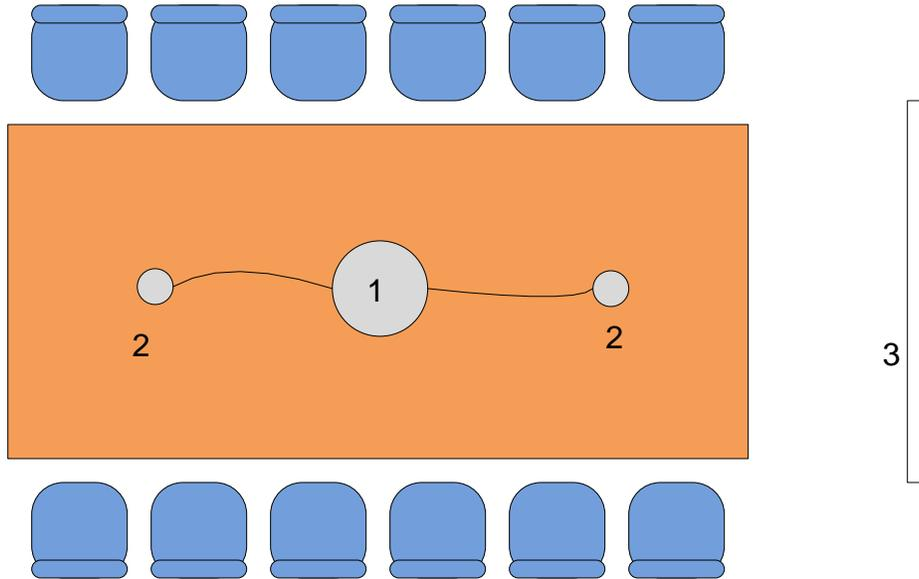

Figure 8. Rectangular table with one display device
Figure 8 below shows a configuration with a rectangular table in a conference room capable of holding 12 to 16 people, and one display device (3). The table shown is approximately 5 feet x 10 feet. In this configuration, two satellite microphones (2) are shown connected to the Polycom CX5000 device (1).